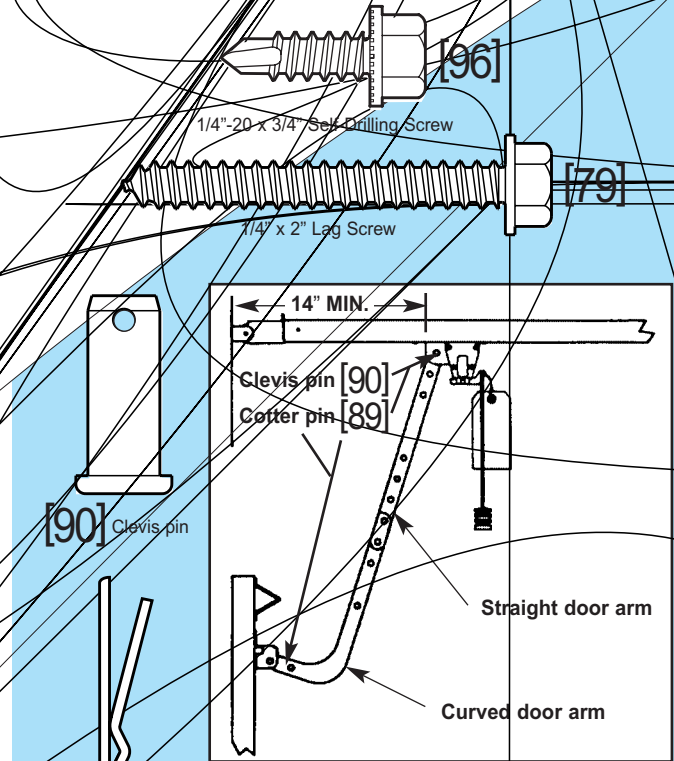

Fig. 2-7
9. Install door arms (Fig. 2-7).
- Attach straight door arm to carriage as shown in Fig. 2-7.
- slip straight door arm into carriage at bottom of carriage as shown in Fig. 2-7.
- Attach short curved door arm to door bracket as shown in Fig. 2-7.
- slip short curved door arm into slot in door bracket as shown in Fig. 2-7.